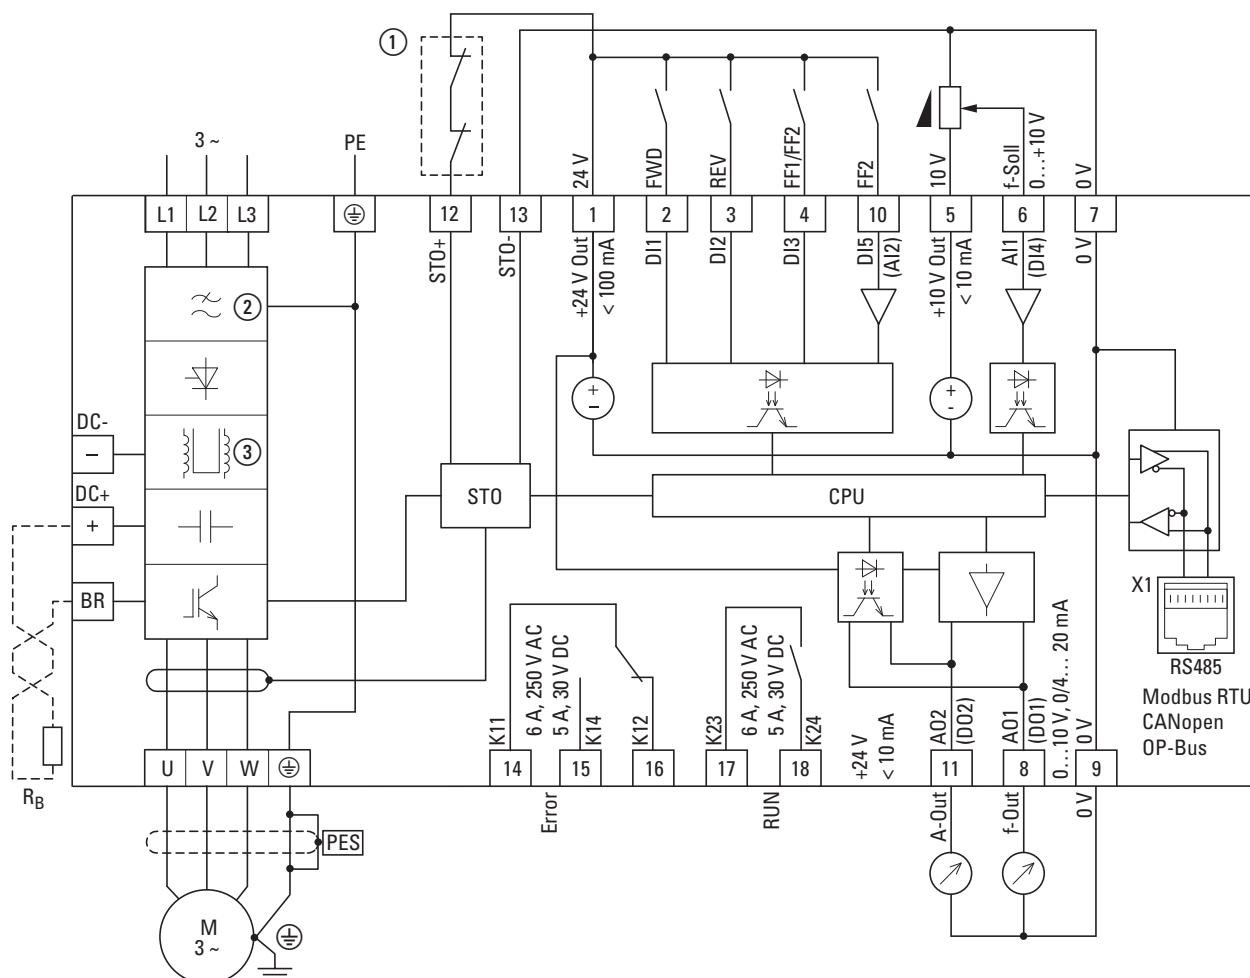

Figure 87: DA1-...-B55C block diagram
- ① Direct enable of the STO function or relay: Safe Torque Off (STO), SIL 2 (EN 61800-5-2) as seen in → figure 87, page 120.
- ② The RFI filter is not contained in the DA1-35-...-B6XC device.
① Direct enable of the STO function or relay: Safe Torque Off (STO), SIL 2 (EN 61800-5-2) as seen in → figure 87, page 120.
② The RFI filter is not contained in the DA1-35-...-B6XC device.